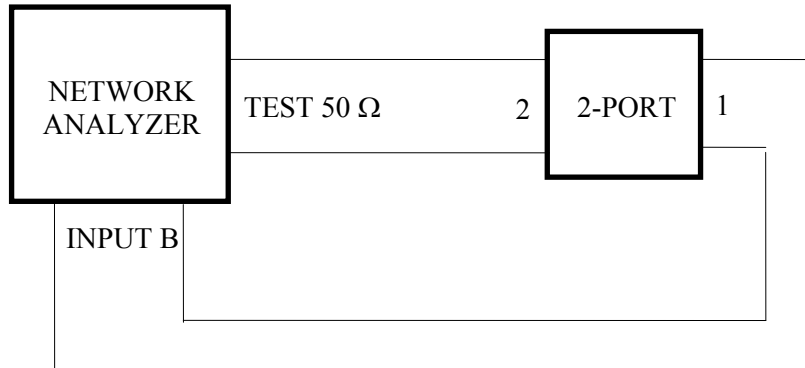

Figure 5. Circuit connection for s_{12} measurement.
- b. Connect port 2 of your circuit to the cable from the TEST 50 Ω port of the signal divider, and connect port 1 of your circuit to the INPUT B port of the analyzer as shown in Figure 5 below.